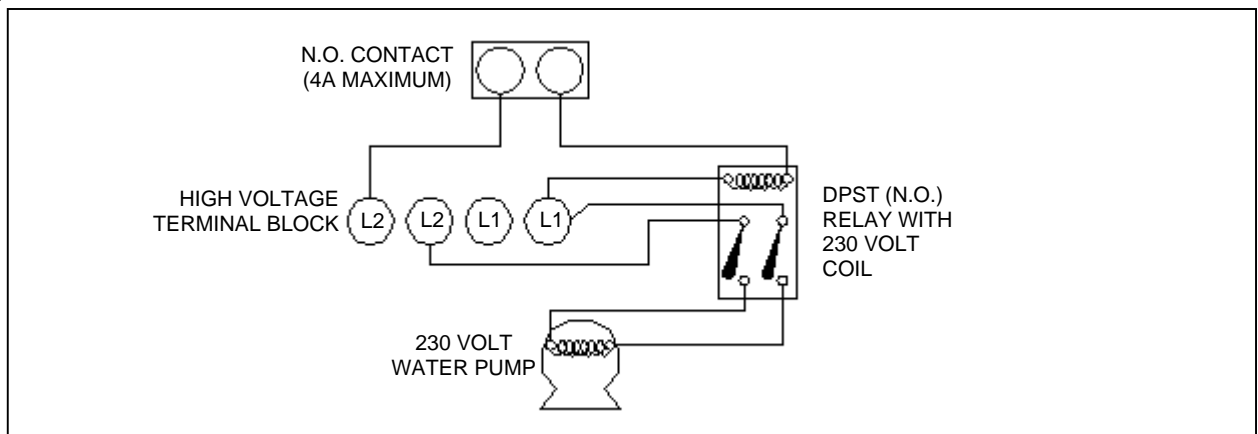

Figure 17 – WIRING A 230 VOLT WATER PUMP THAT EXCEEDS ELECTRONIC BOARD'S 4A RATING
- Wiring a 230 volt water pump with a current requirement greater than 4 amperes, see Figure 17.